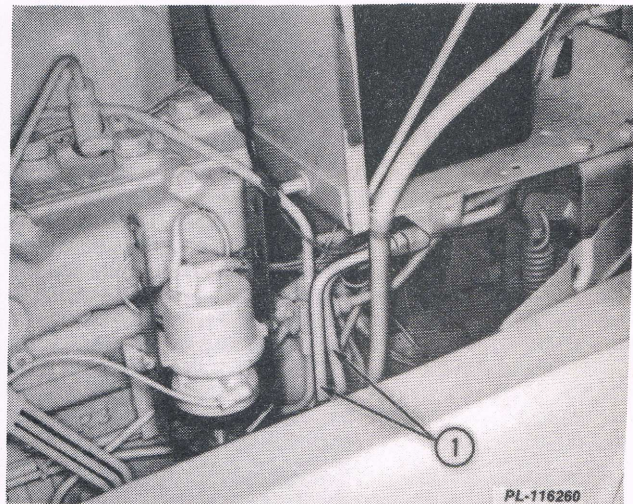

Fig. 6
13. Disconnect the two power steering tubes. See Fig. 6.